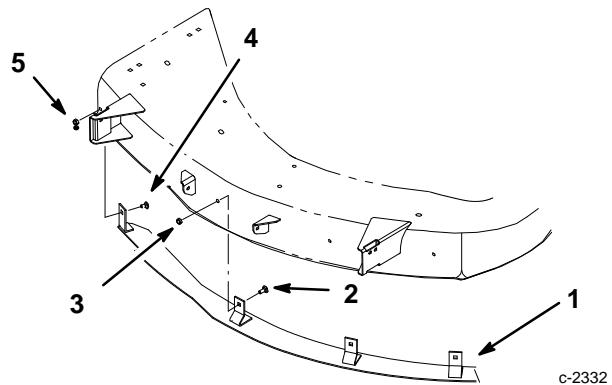

Figure 35
1. Remove the grass baffle inside the front lip of mower (Fig. 35).